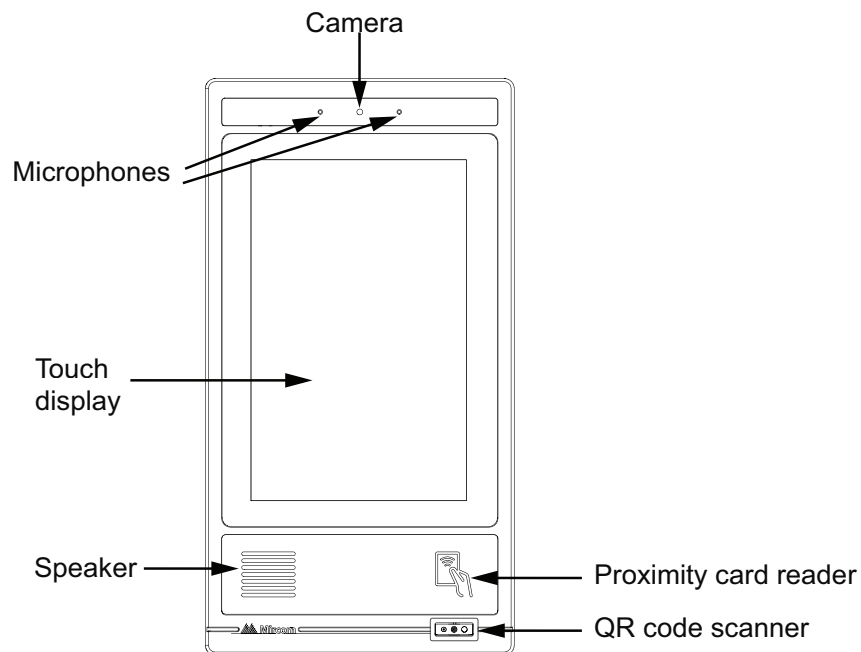

Figure 1. TX3-T10 components
- Figure 1. TX3-T10 components 6